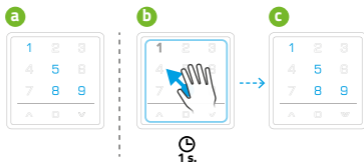

Fig. 9.3
3. Activation by waving your hand to the field on the remote control screen. This mode is only possible with the active control the motions. In this mode, the channels will be activated on the display that have been managed in the last session before going to stand-by. The remote control is expected to order for these channels or select more channels - Fig. 9.3.